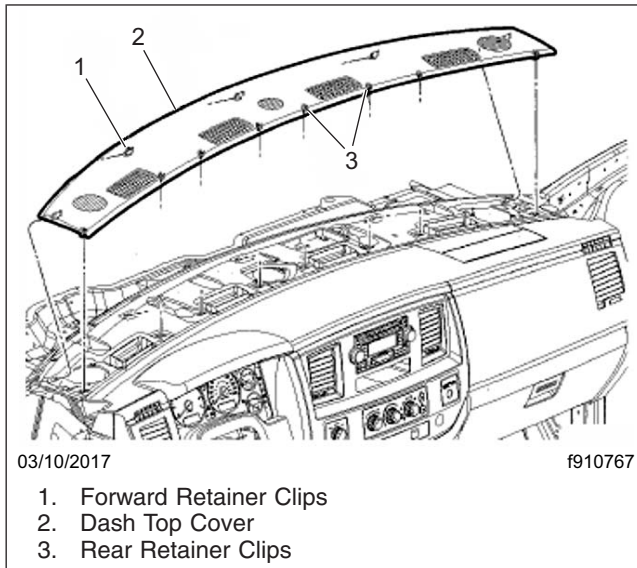

Fig. 1, Dash Top Cover Installation
- 4.1 Using a trim stick, pry the rearward side of the cover up to disengage the eight retainer clips. See Fig. 1.
- 24.1 Position the cover in place and engage the five retainer clips that secure the front of the cover to the top of the dash. See Fig. 1.